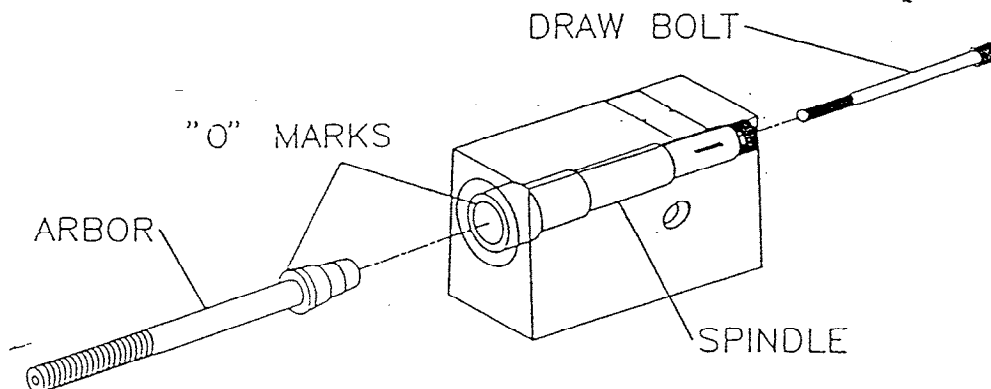

Fig.11 Changing lathe arbor
1. Loosen the draw bolt three or four turns using an Allen wrench. See Figure 11.